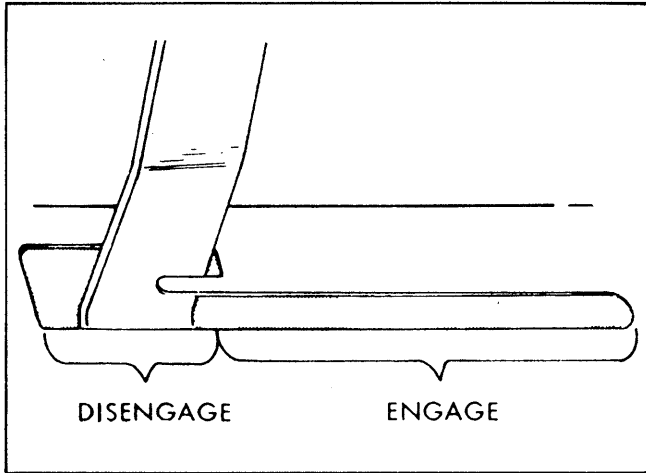

FIGURE 5 LIFT AND DISENGAGEMENT LEVER
c. The **Cruise Control** allows you to set the maximum speed by moving the stop lever to any of the six positions. At any time you can depress the clutch-brake pedal and stop or slow down the mower but it will never go faster than the point where you set the cruise control. (See figure 5).
b. **Rough Terrain Cutting.** With the lift lever (figure 5) in the disengaged position, push the stop lever into the right and set it at the desired cutting height position. Move the lift lever into the engaged position. Set the wheel height adjusters so they clear the ground by approximately 1/4-inch to prevent scalping.
TO STOP THE BLADE, move the lift lever (figure 5) into the disengaged position. The lift lever raises the deck and disengages the blades.